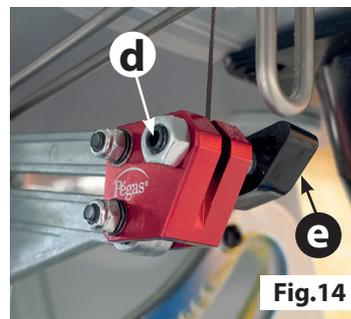

Fig.14
**To avoid kinking or damaging the blade in the holder, when making adjustments make sure the set screw ( **d** ) (opposite the thumbscrew ( **e** ) is threaded in to the holder to protrude beyond the blade slot ( **f** ). (See Fig. 14 & 15)**